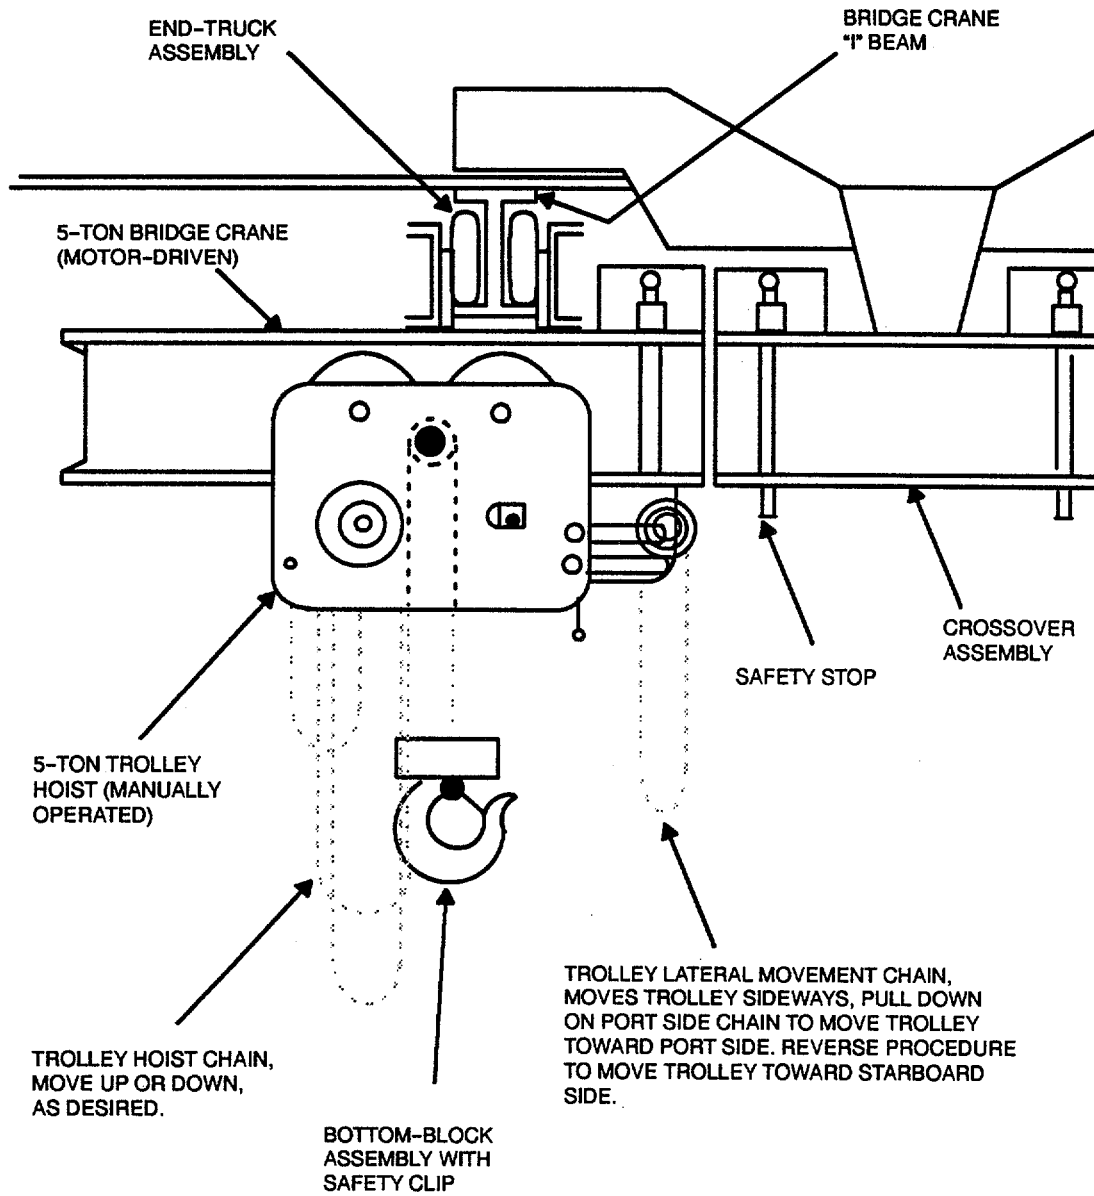
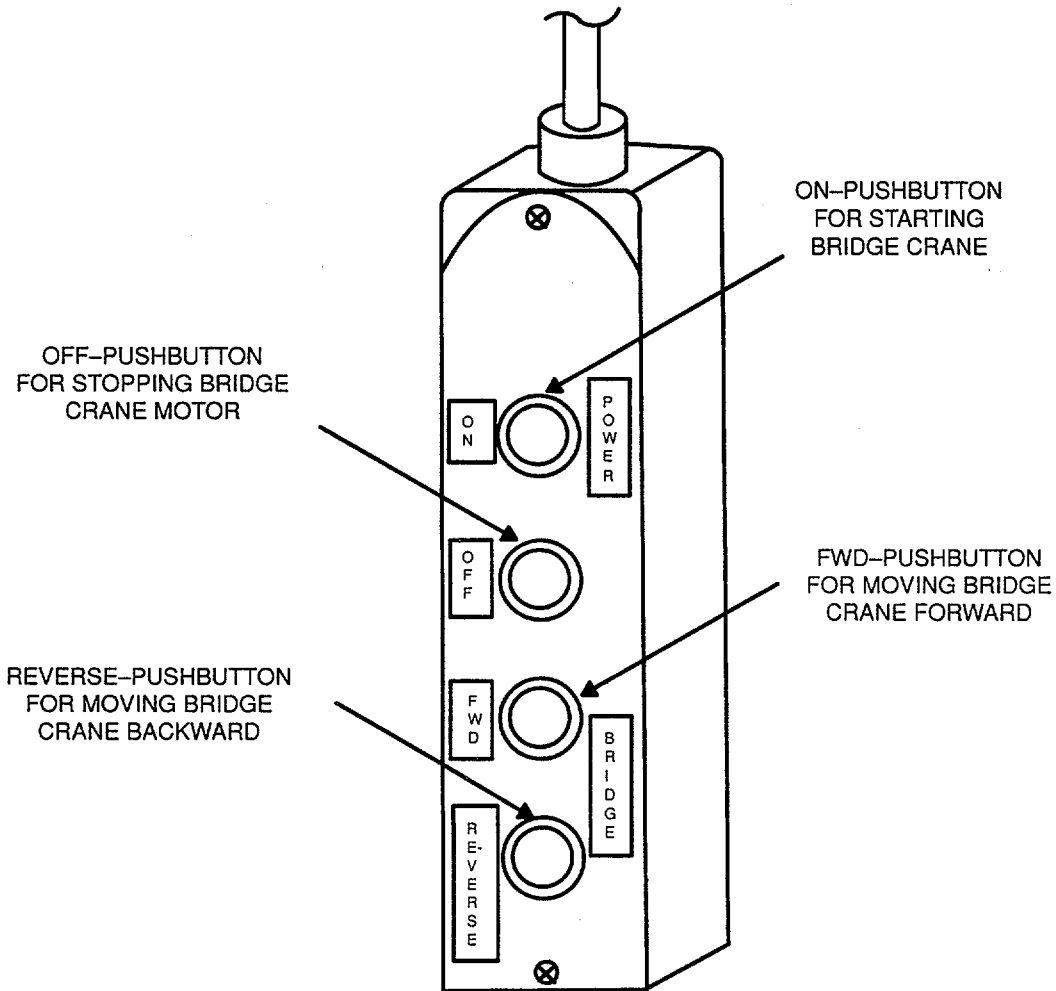
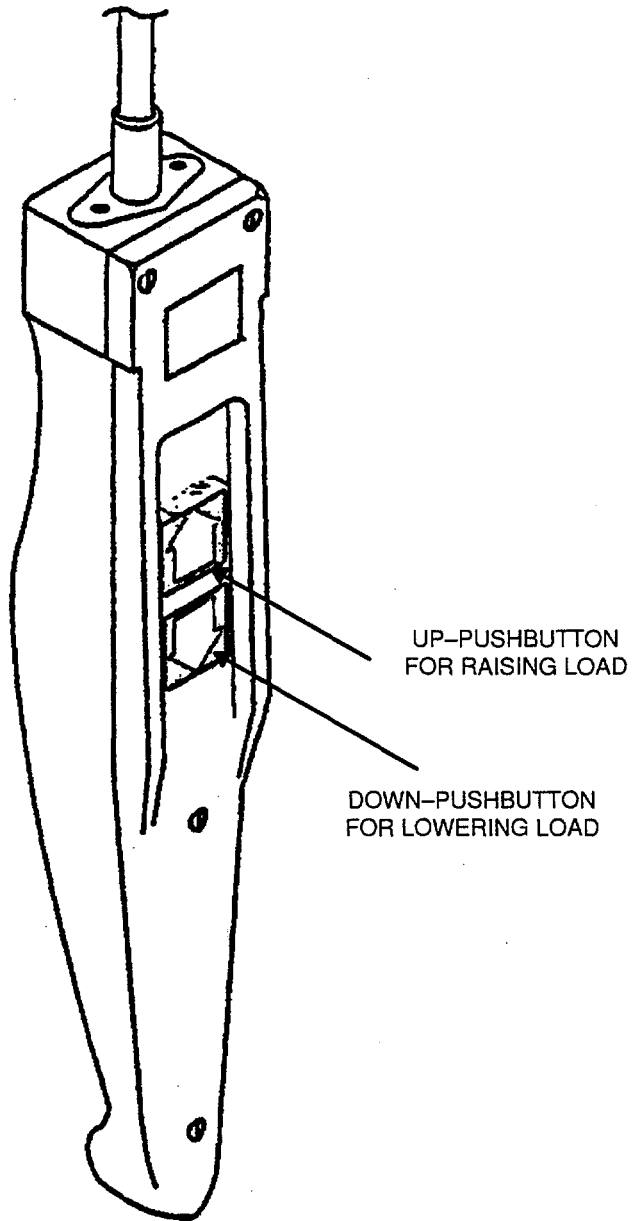

Figure 2-1 . Bridge Crane
Figure 2-5. Bridge Crane Hand-Held Control
Figure 2-6 . Two-Ton Hoist Hand-Held Control
**2-10 Operating controls.** Controls for maneuvering loads include the bridge crane hand-held control shown in Figure 2-5 and 2-ton hoist hand-held control shown in Figure 2-6.
- a. Close (ON) power panel 1 circuit breaker 6P5 on ROWPU space portside.
- b. Start crane motor by pressing ON button on hand control (Figure 2-5). Press FORWARD or REVERSE button as necessary to move crane to load location.
- c. Move trolley sideways by using trolley lateral movement chain (Figure 2-1).
- f. Use trolley hoisting chain (Figure 2-1) to raise load when 2-ton electric hoist is not installed. If load is within capacity of 2-ton electric hoist and it is installed, press UP button on hand control (Figure 2-6) to raise load. Make sure load is high enough to clear any equipment in the path of the load.
- g. Press crane hand control FORWARD or REVERSE button (Figure 2-5) as necessary to transport load to new location.
- i. Use trolley lateral movement chain (Figure 2-1) to move trolley so load is at exact position for unloading.
- j. Use trolley hoisting chain to lower load when 2-ton electric hoist is not installed. If 2-ton electric hoist is used, press DOWN button on hand control (Figure 2-6) to lower load.